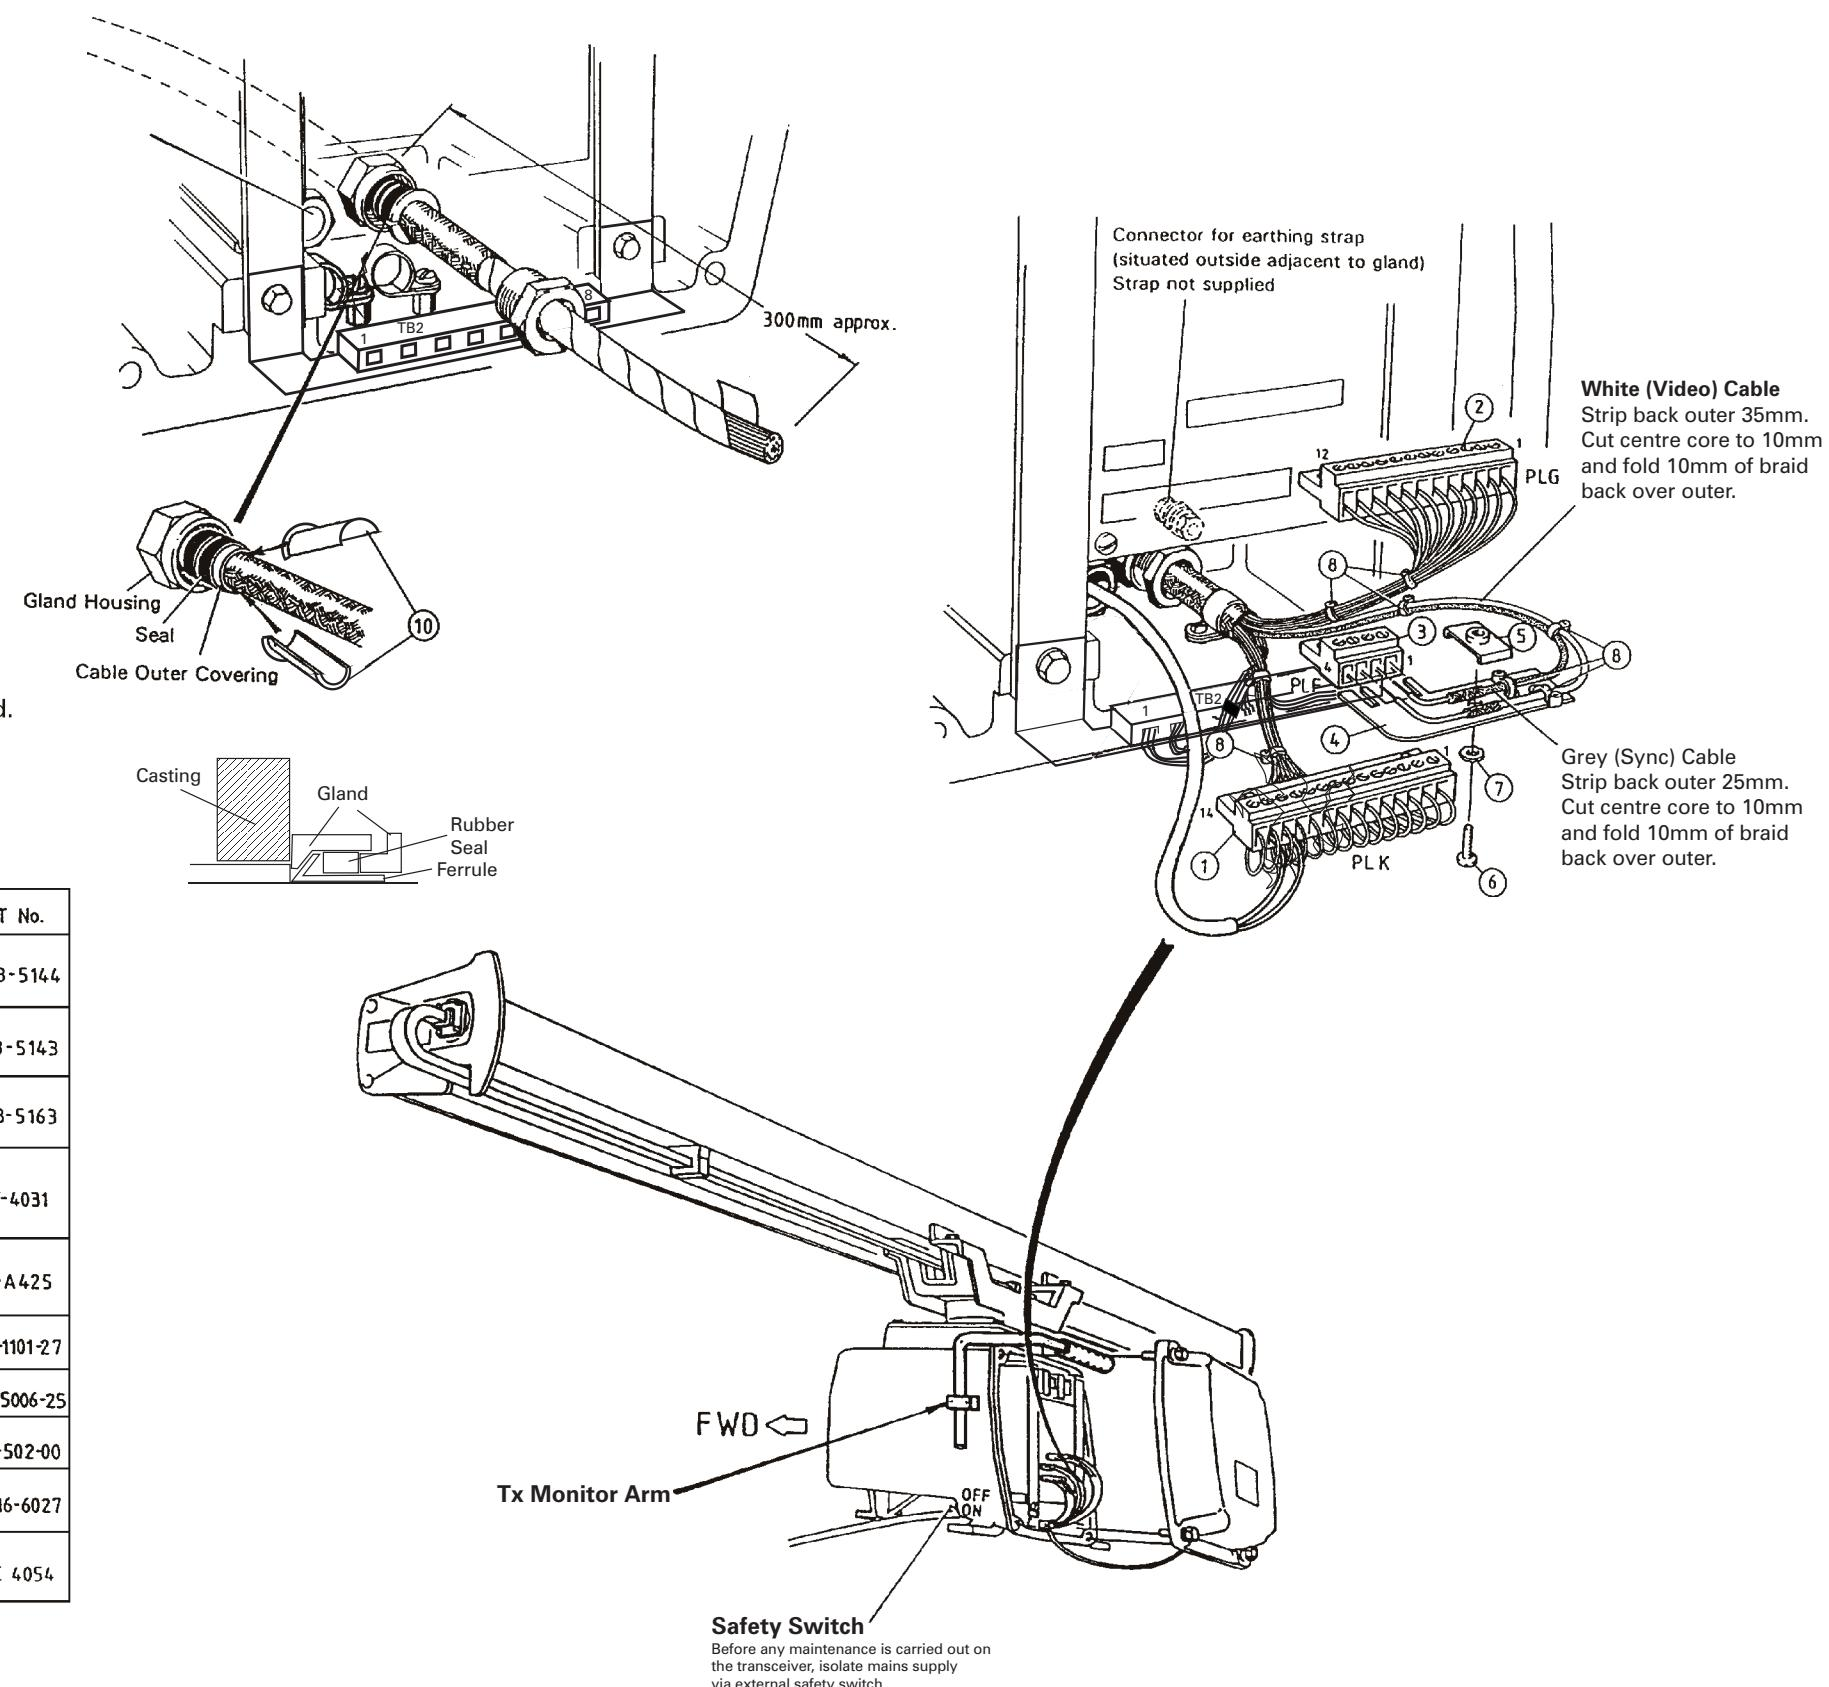

Figure 5c - 38-Core Composite Cable: Installation
- 29 Feed the 38-core composite cable into the Transceiver and prepare as instructed in Figure 5c. The earthing ferrules must be used.